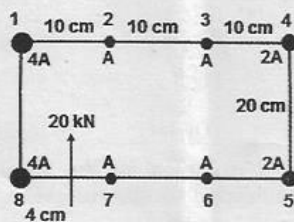

Fig.6
- (b) Determine the shear flow pattern for the idealized section shown in Fig.6. Area A is 2 Cm^2 .